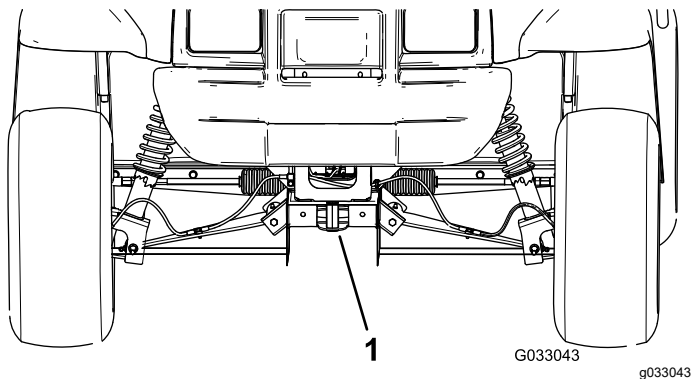

Figure 18
Refer to Figure 18 and Figure 19 for the tie-down locations on the machine.
2. Affix a tow line to the tongue at the front of the machine frame (Figure 18).